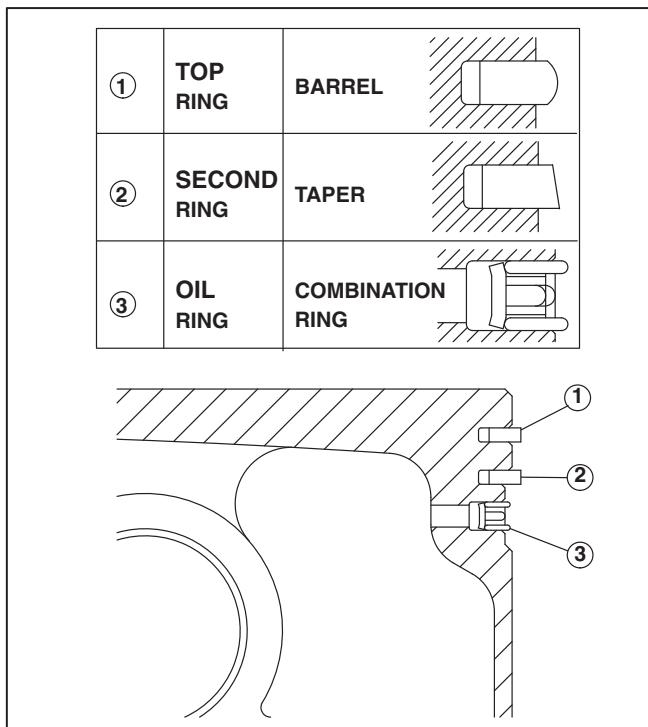

FIGURE 6-2.
1. Install the oil control ring first, then the second ring and top ring. Using a piston ring spreader expand rings just far enough to slip over piston and into the correct groove. Use care not to distort ring (Figure 6-2).